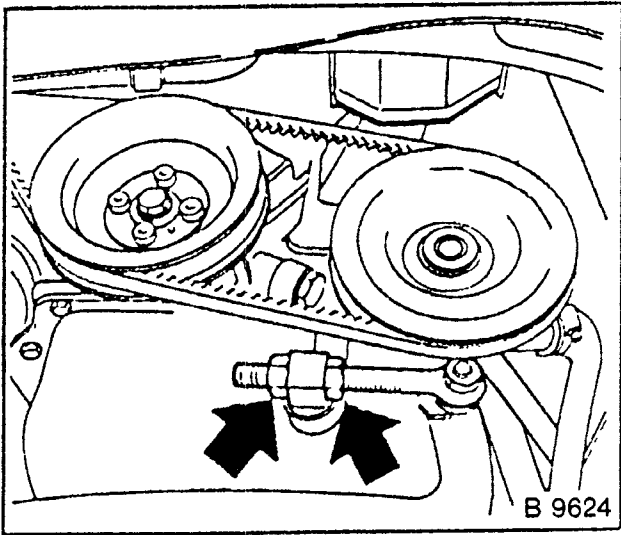

Fig. 91
- 2. Loosen bolts (1), (2), (3).
- 3. Loosen tensioning screw nuts (Fig 91).